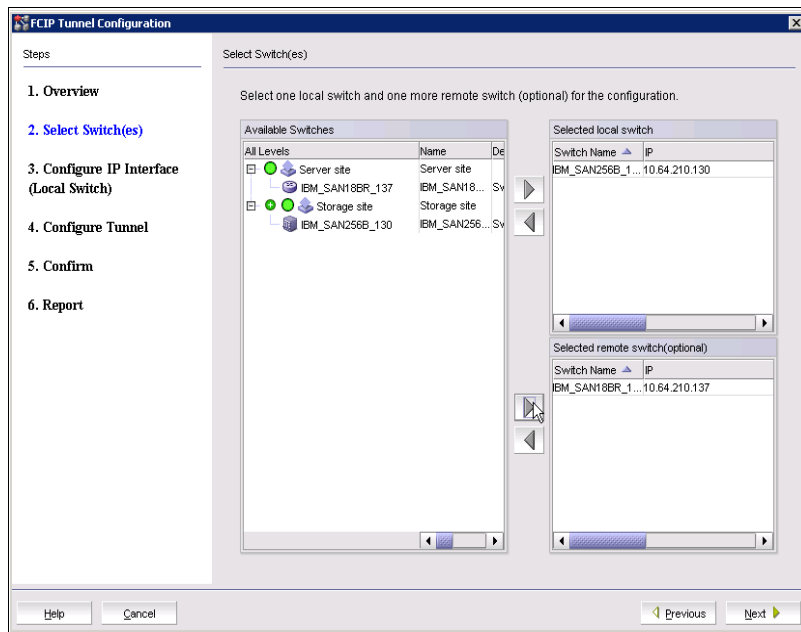

Figure 10-23 Step 2: Select switch(es) window
2. Select the participating switches (SAN routers) by moving them to the “Selected” panes in the “Step 2: Select Switch(es)” window (Figure 10-23). Our local switch is Storage site B with the SAN256B director switch, and the remote switch is the SAN18B-R switch at Server site A. Click **Next**.